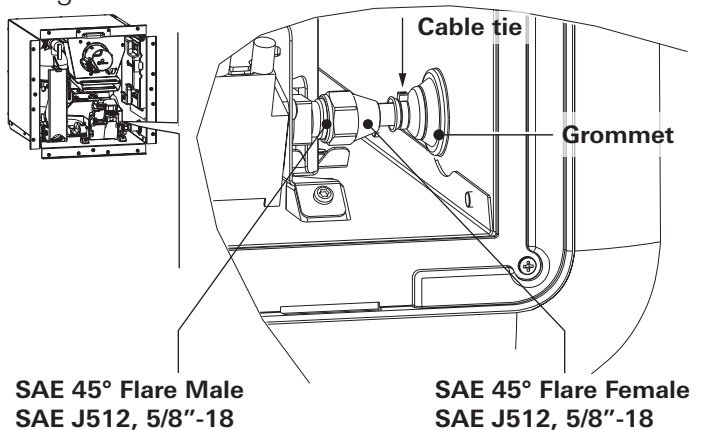

Fig. 20
5. Put a cable tie around the grommet and tighten it (see Fig. 20).